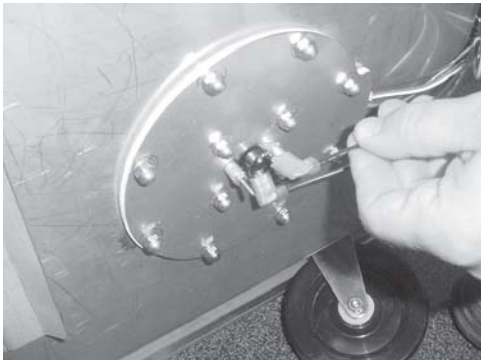

Figure 3-45
4. Remove wire from high limit. Figure 3-45.